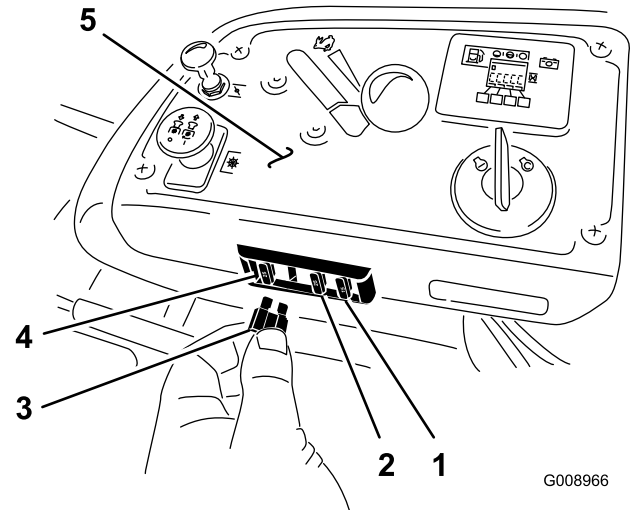

Figure 57
1. The fuses are located on right hand console next to the seat (Figure 57).
3. Install a new fuse (Figure 57).